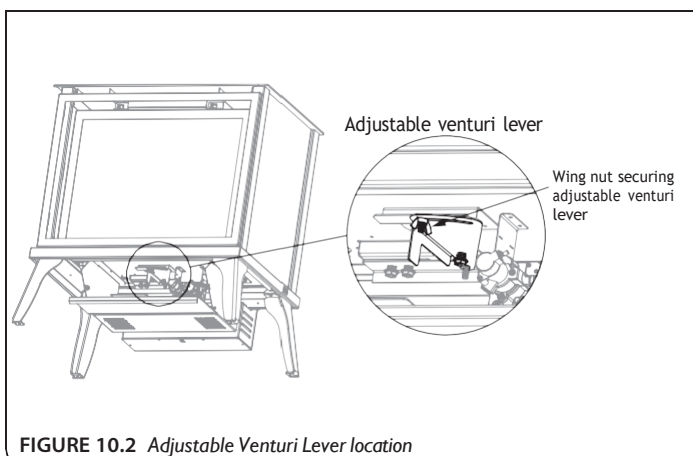

FIGURE 10.2 Adjustable Venturi Lever location
2. Locate the adjustable venturi lever (FIGURE 10.2)